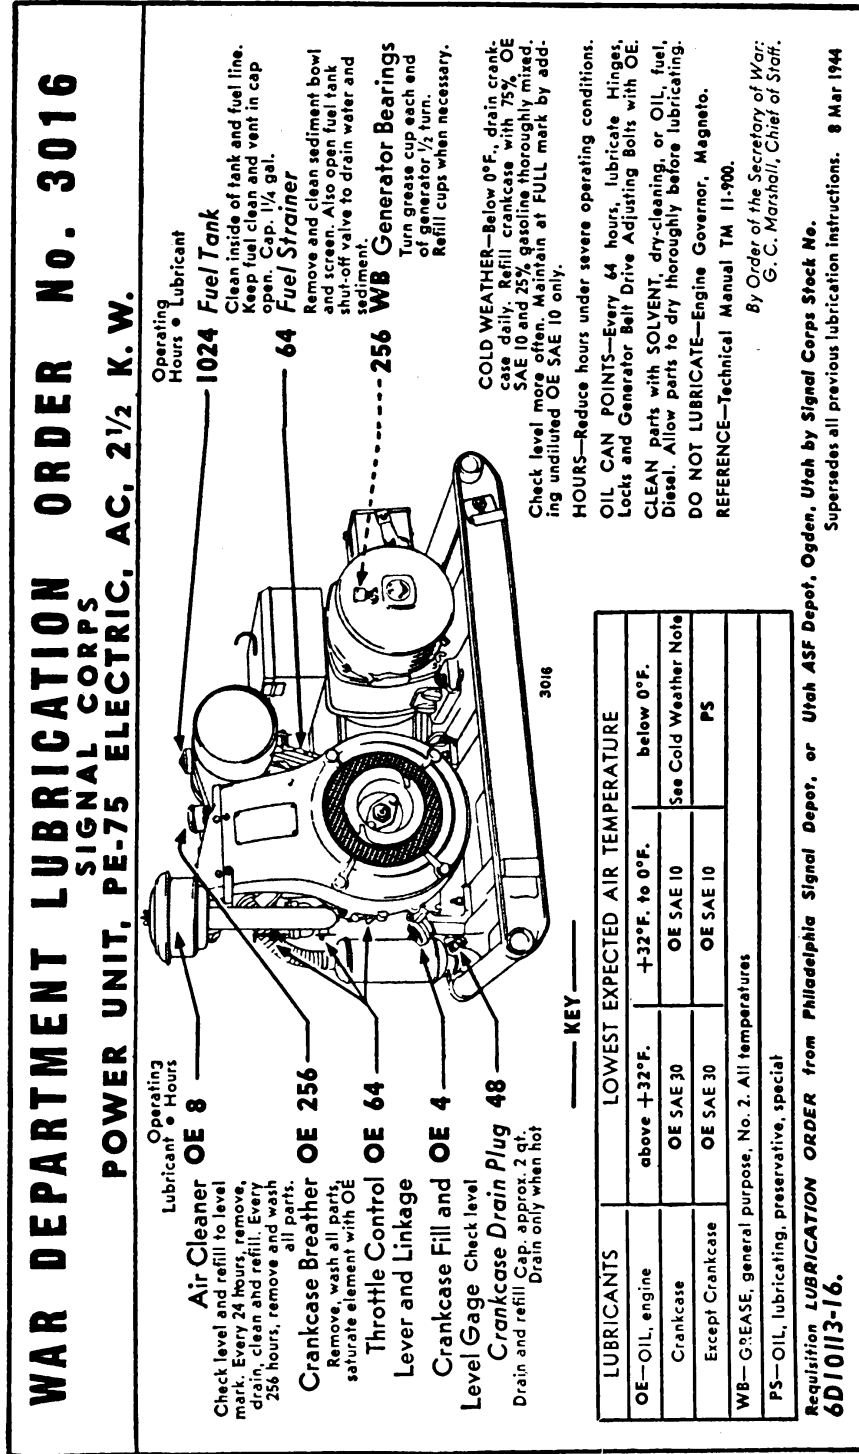

FIGURE 3.1.—War Department lubrication order.
a. Before starting the engine, fill the crankcase with the proper grade of oil as shown in the War Department lubrication order (fig. 3.1). Also, follow the instructions on the lubrication order for filling the air cleaner.
c. Remove the grease cups at each end of the generator and fill them with grease according to instructions given in the War Department lubrication order (fig. 3.1). Replace the cups and turn them down a few turns. Be sure that both oil and gas caps have been replaced. Check all gasoline lines and connections for possible leaks, and make certain that all electrical connections are tight.
**b. Bearings.** The generator is \* \* \* by grease cups. Keep the grease cups filled, and give the cap a half-turn every **256** hours of operation. Every **1,024** hours of running time, repack the bearings with grease, as follows: expose the bearing, clean it with a **dry-cleaning solvent**, and repack it with the grease specified in the **War Department lubrication order** (fig. 3.1). **Do not overlubricate.**